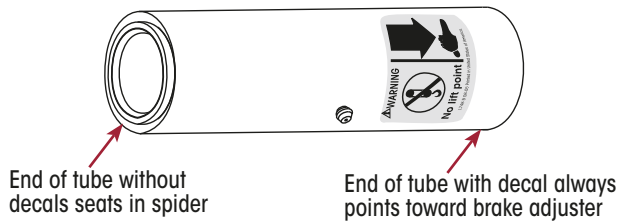

Figure 72: INTRAAX Cam Tube Orientation
2. Orient the end of the cam tube without the decal so that it goes onto the camshaft first (Figure 72). In other words, the end of the cam tube with the decal must be closest to the slack adjuster.